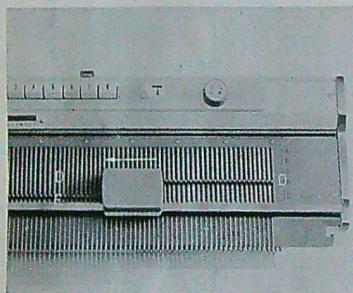

Fig. 17
(3) Slide the picker across the needles in position "E" from right to left.
(4) The needles in position "E" will move back to position "D". (See Fig. 17)
(5) Slide the picker across the needles in position "D" from left to right.